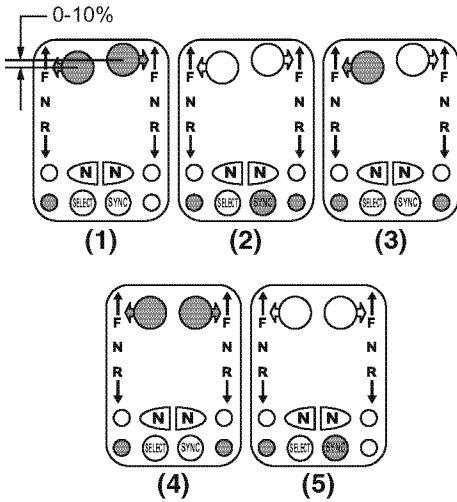

Figure 19
2. Match all engine shift and throttle settings by moving the active port and starboard control head levers to within 5% of each other (**Figure 19, (1)**) and press the SYNC button (**Figure 19, (2)**) on the control head. The sync lamp flashes if the handles are not within 5% of each other (**Figure 19, (3)**). The sync lamp will stop flashing and remain continuously lit (**Figure 19, (4)**) when the levers are moved to within this 5% range.